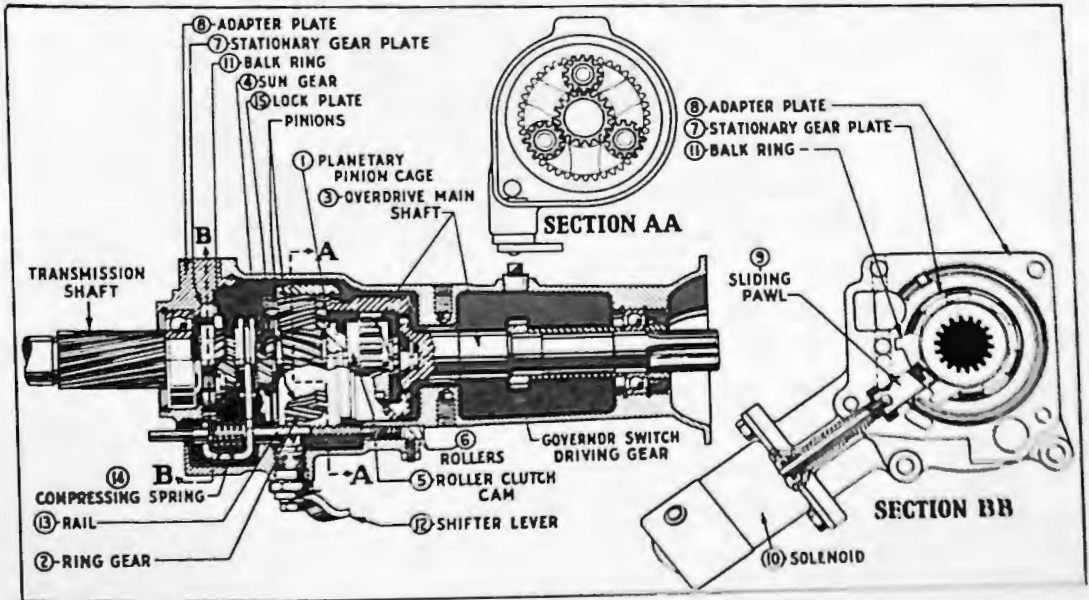

Fig. 1
When the car is operated with the dash button "in" (overdrive position) the change from STANDARD drive to OVERDRIVE is accomplished by the sun gear being held stationary by the pawl (9) in the adapter plate (8) shown at the right of Fig. 1.